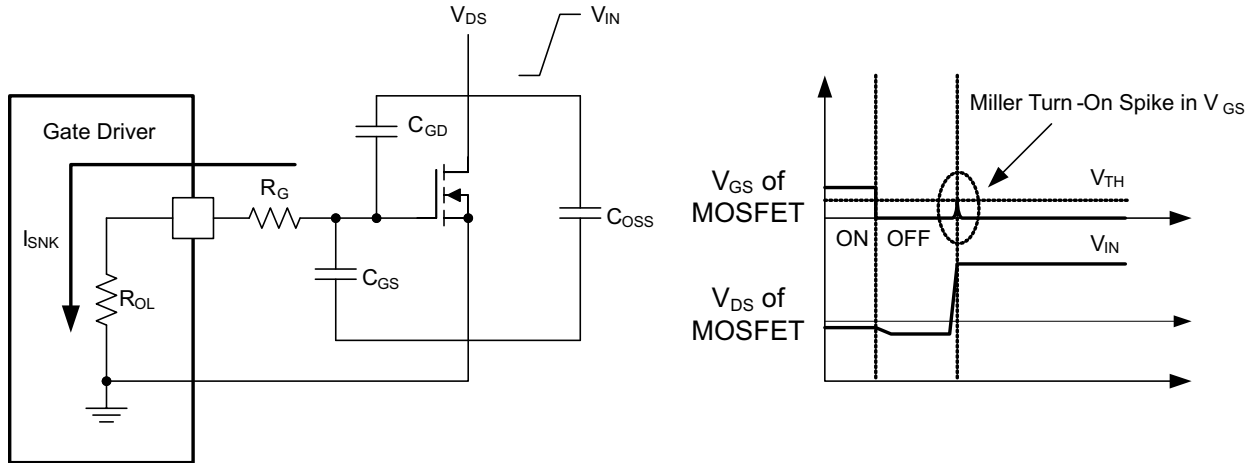

Figure 25. Low Pulldown Impedance in the UCC27532-Q1 Device (Output Stage Mitigates Miller Turnon Effect)
An example of a situation where Miller turnon is a concern is synchronous rectification (SR). In SR application, the dV/dt occurs on MOSFET drain when the MOSFET is already held in the off state by the gate driver. The current charging the C_{GD} Miller capacitance during this high dV/dt is shunted by the pulldown stage of the driver. If the pulldown impedance is not low enough then a voltage spike can result in the V_{GS} of the MOSFET, which can result in spurious turnon. This phenomenon is illustrated in Figure 25.